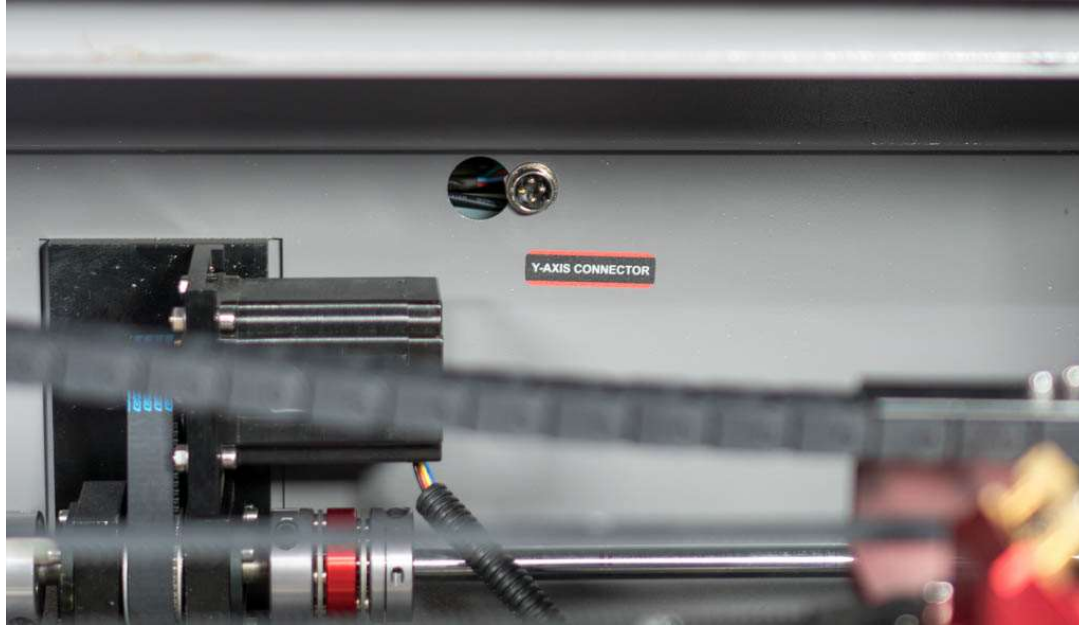

Figure 8. Y-Axis unplugged
- b. Position of **"DIP" switches**. These are tiny switches on the back of the motor driver that can be flipped up or down. There's about 6-8 of them. Please refer to *Figure 8. Stepper Drivers inside Boss Laser*